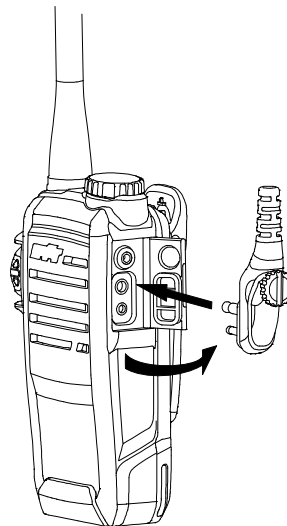

Figure 11
- ① Open (not remove) the accessory jack cover.
- ② Plug the earpiece or microphone into the accessory jack, and screw down the screws, as shown in Figure 11.